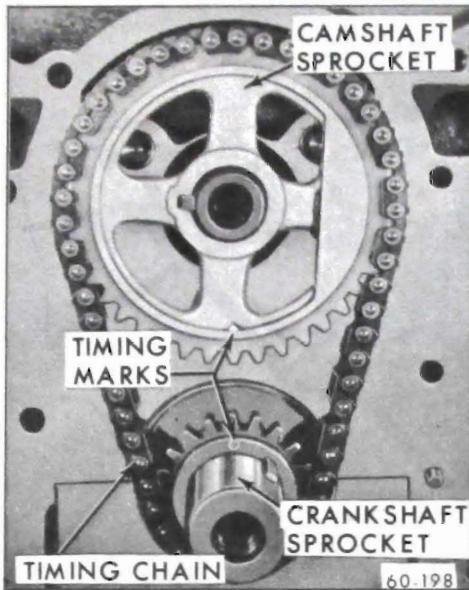

Figure 60-243--Installation of Timing Chain and Sprocket - 350 Cu. In.
350 Cu. In. 1. With timing chain cover removed (subpar. a above) temporarily install crankshaft pulley bolt and washer in end of crankshaft. Turn crankshaft so sprockets are positioned as shown in Figure 60-243. Remove harmonic balancer bolt and washer using a sharp blow on the wrench handle, so that the bolt can be started out
2. Turn camshaft so with sprocket temporarily installed, timing mark is straight down. See Figure 60-243. Remove Sprocket.
3. Assemble timing chain on sprockets and slide the sprocket and chain assembly on the shafts with the timing marks in their closest together position and in line with the sprocket hubs. See Figure 60-243.